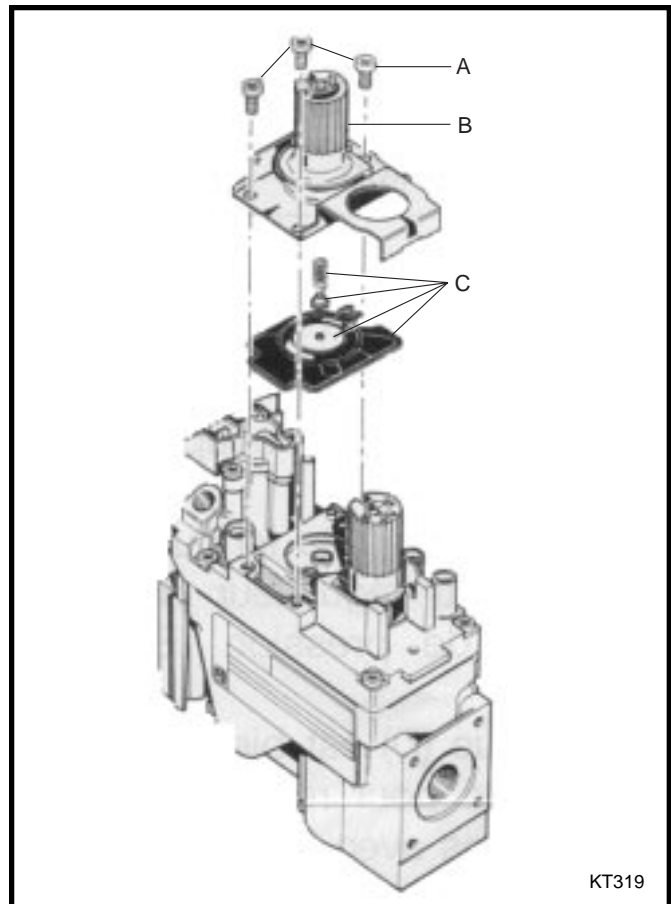

Fig. 7 Remove valve regulator.
1. Using the TORX T20 bit remove and discard the three (3) pressure regulator mounting screws (A), pressure regulator tower (B) and the spring and diaphragm assembly (C). (Fig. 7)